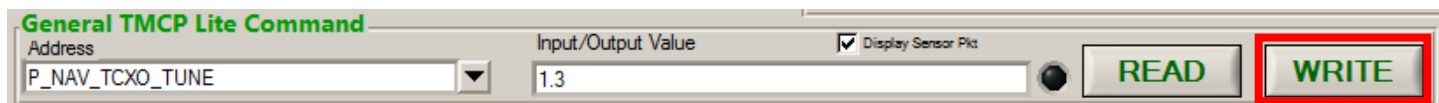

Figure 11 Adjusting NAV_TCXO_TUNE
- 3) Using alignment software vary the TCXO tuning voltage by typing “P_NAV_TCXO_TUNE” on the Address box of General TMCP Lite Command and typing the value in Input/output Value box and clicking “WRITE” (Figure 11), Adjust the value until a frequency of 161.0000MHz +/- 160Hz is measured.